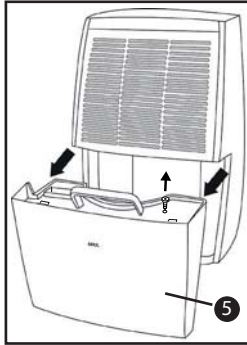

Fig. 5
- ◆ Pull the water tank **5** out of the appliance and remove the stopper which is located in the lid of the water tank **5** (see fig. 5).